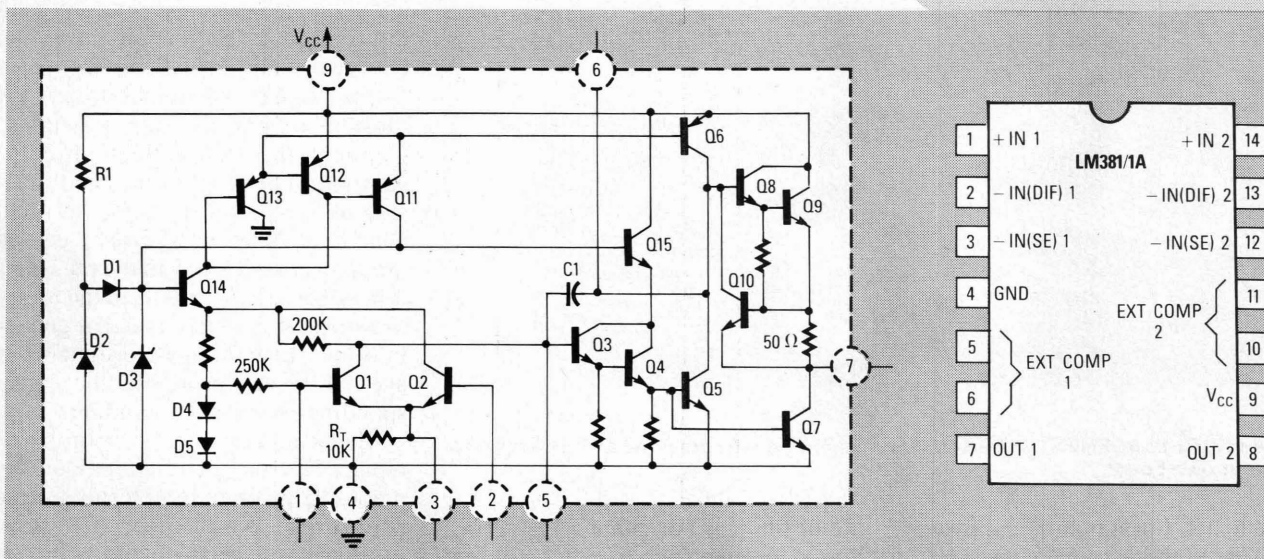

FIG. 2—THE LM381/1A DUAL LOW-NOISE PREAMP.
- The LM381 and LM381A, shown in Fig. 2, allow external noise figure optimization and compensation (nar-
LM381/1A shown in Fig. 2. It has a first stage (Q1 and Q2), second stage (Q3–Q6), output stage (Q7–Q10), and bias network (Q11–Q15); Fig. 5 shows a simplified equivalent. The first stage is biased at 1.2 volts via R1, and can be operated either differentially or single-ended, although differential operation generates 41% more noise.